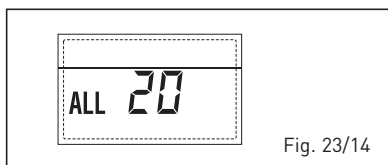

Fig. 23/14
– **ANOMALIA AVARIA Sonda IMPULSÃO PRIMEIRA ZONA MISTURADA “ALL 21”** (fig. 23/15)